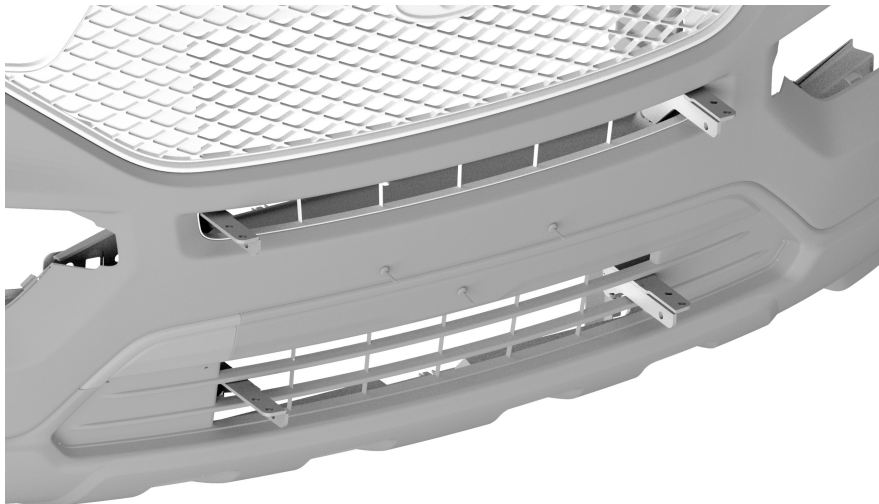

Figure 3
- A. Slide the fascia over the push bumper brackets. The upper brackets pass through the opening just below the grille and the lower brackets pass through the middle opening in the lower portion of the fascia. See Figure 3. No trimming is required.